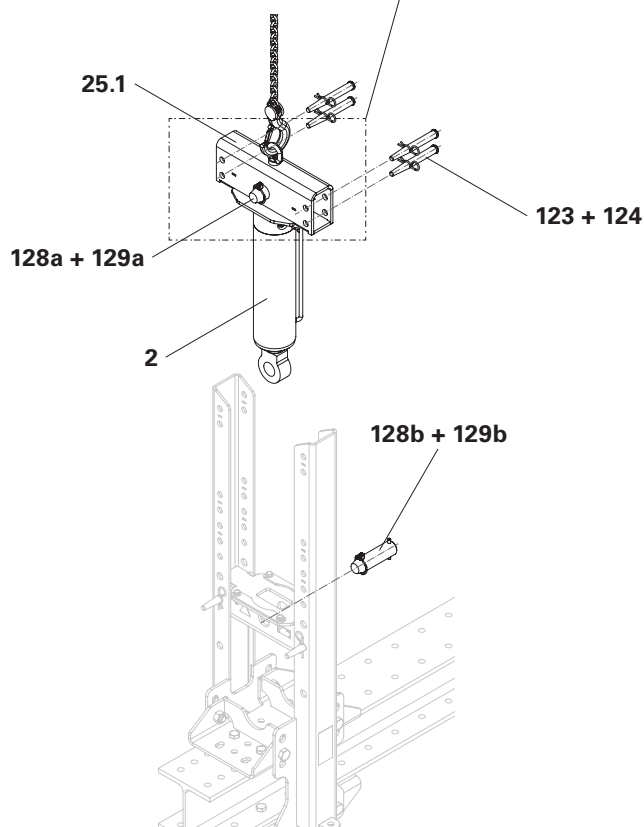

Fig. B5.02
12. Insert filler pin 21x120 (123) and secure with Cotter Pin 4/1 ga (124). (Fig. B5.02)